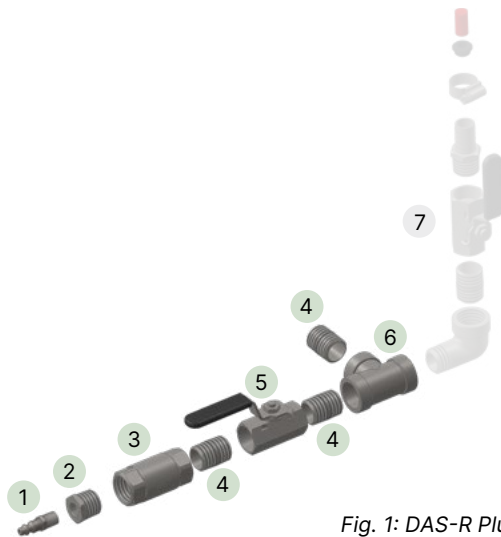

Fig. 1: DAS-R Plumbing Kit
- Install the Plumbing Kit (Fig. 1) starting with parts closest to the tank. Ensure that the arrow on the check valve is pointing towards the ball valve.